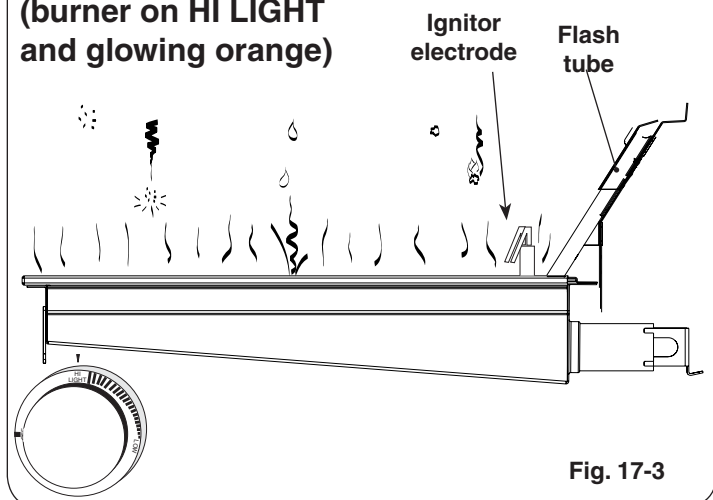

Fig. 17-3
- DO NOT place food on the cooking grid until the IR burner glows orange (Fig. 17-3). Drippings are heated and evaporate instead of sticking to and impairing burner function.